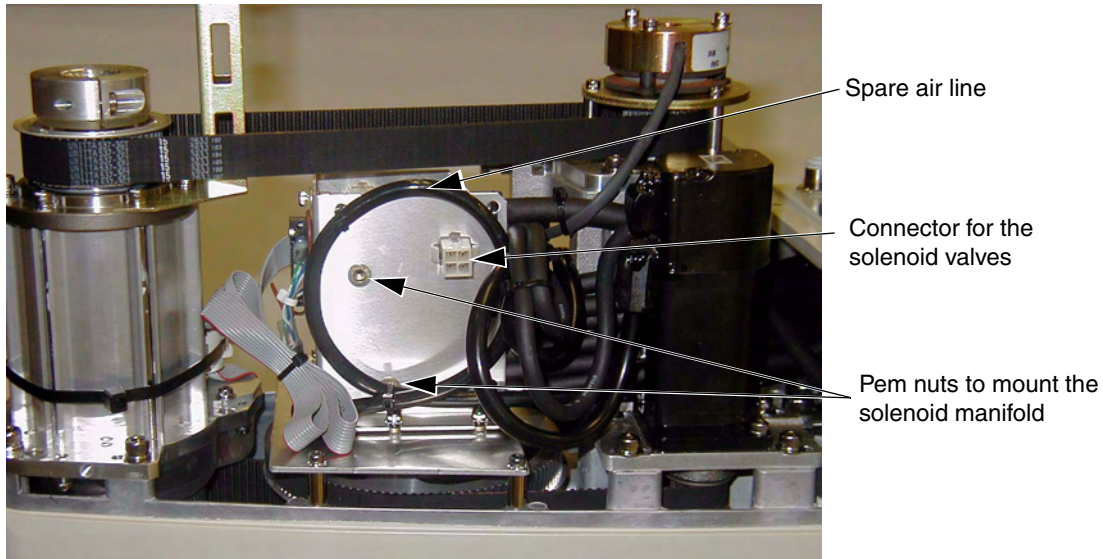

Figure 7-4. Solenoid Mounting Bracket With Connector and Spare Air Line
The robot has been prewired to accommodate a bank of two 24 VDC solenoid valves. Power for the internal mounting is accessible via a connector mounted inside the outer link cover (see Figure 7-4 on page 142). The signals actuating the valves are directly switchable from the PLC. Refer to Chapter 6 for register information. The Adept-supplied solenoids each draw a nominal 75 mA from 24 VDC.
4. Cut and discard the tie-wraps holding the spare air line at the top of the mounting bracket. Move the air line away to facilitate the mounting of the solenoid manifold (see Figure 7-4).